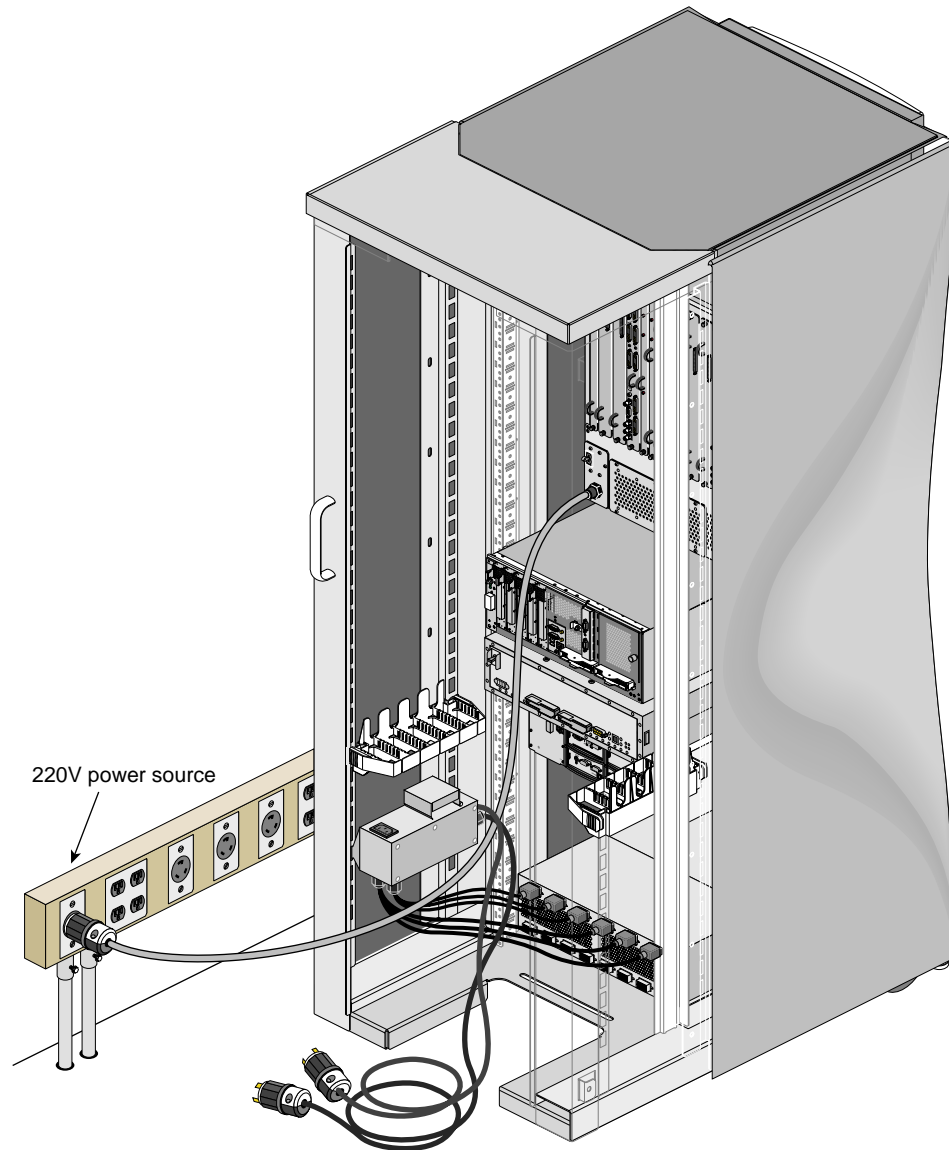

Figure 4-3 Connecting a G-brick Power Cable
- Between the G-brick(s) and the external power receptacle(s) (see Figure 4-3).